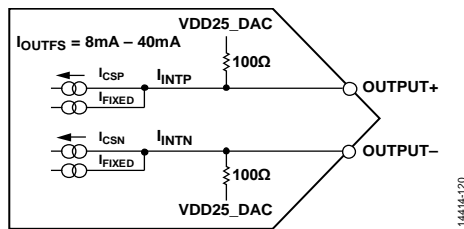

Figure 137. Equivalent DAC Output Circuit
The AD9164 provides complementary current outputs, OUTPUT+ and OUTPUT-, that sink current from an external load that is referenced to the 2.5 V VDD25_DAC supply. Figure 137 shows an equivalent output circuit for the DAC. Compared to most current output DACs of this type, the outputs of the AD9164 consists of a constant current (I_{FIXED}), and a peak differential ac current, I_{CS} ($I_{CS} = I_{CSP} + I_{CSN}$). These two currents combine to form the I_{INTx} currents shown in Figure 137. The internal currents, I_{INTP} and I_{INTN} , are sent to the output pin and to an input termination resistance equivalent to 100 Ω pulled to the VDD25_DAC supply (R_{INT}). This termination serves to divide the output current based on the external termination resistors that are pulled to VDD25_DAC.
The example shown in Figure 137 can be modeled as a pair of dc current sources that source a current of I_{OUT} to each output. This differential ac current source is used to model the signal (that is, a digital code) dependent nature of the DAC output. The polarity and signal dependency of this ac current source are related to the digital code (F) by the following equation: